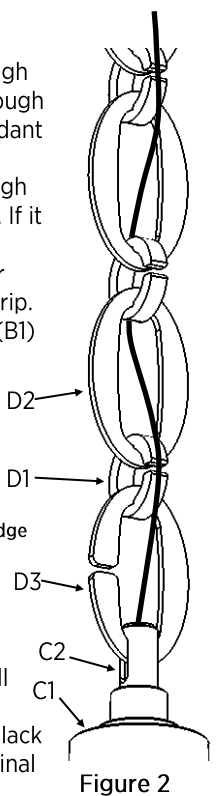

Figure 2
Step 5: Attach Pendant Light Body (C1) to the pendant chain using the pre-attached chain link (D3). (see Figure 2)